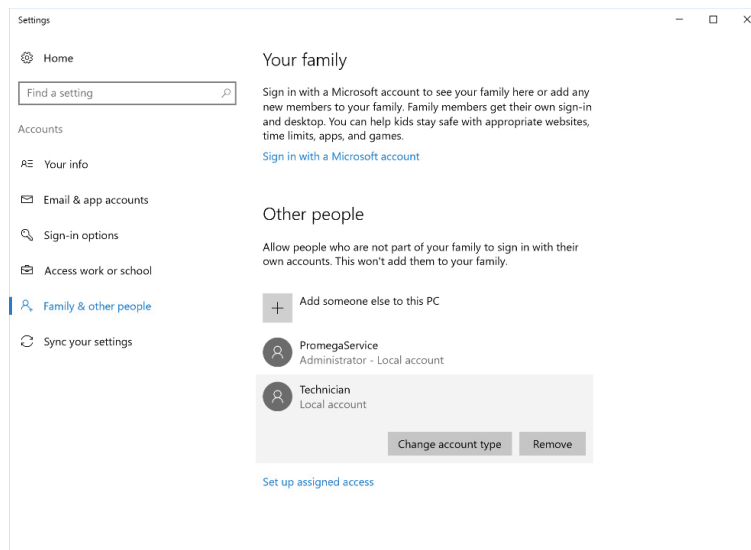

Figure 53. Assigning account options. Select any of the listed Windows® user accounts to access options for changing the account type.
- By default, the new user account will have user access level rights within the Windows® 10 operating system. If you desire the new user account to have administrator rights, select the user account under the *Other people* heading to open options for that user (Figure 53).